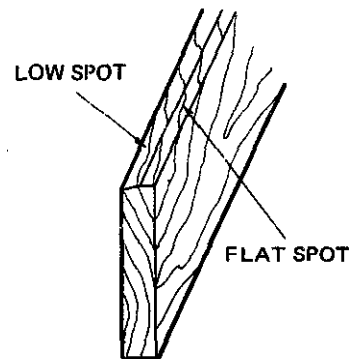

Fig. 8-30 Low edge and high edge of board.
8. Place the plane on the high edge and brace it with the fingers against the board face in such a way as to take only the high section off. Then take a stroke the full length of the board. Test the edge after the stroke to see that the marked low edge is not cut and that a flat surface is started on the high edge as shown in figure 8-30.